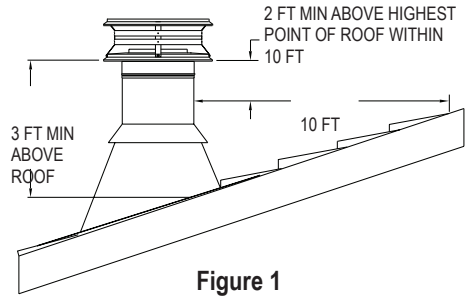
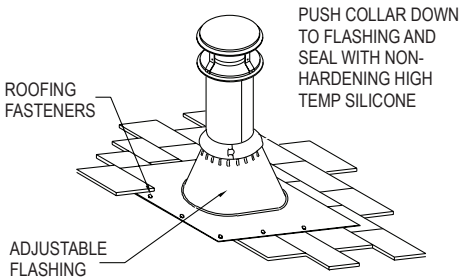

Figure 1
Figure 15
The National Fire Protection Association Standard #211 states: "Chimneys shall extend at least three feet above the highest point where it passes through the roof of a building, and at least two feet higher than any portion of a building within ten feet." (Fig.1) DuraTech Chimney may be installed up to 60 feet high. If the chimney extends more than 5 feet above the roof, an Extended Roof Bracket must be used (see page 12). Due to the overlap of the joints, subtract 1-1/4 inches from each Chimney Section's height to calculate installed height.
10. **Attach Flashing:** In new construction, assemble the Chimney Sections to a point above the roof, then slip the Flashing over the chimney. On an existing roof, center and install the Flashing before extending the chimney above the roof. Allow space to permit sliding the next Chimney Section up through the Flashing. Always insure the chimney remains vertical (use a level), and that at least a 2" clearance to combustible materials is maintained all around. Install the upper edge of the Flashing under the roofing. Nail to the roof along the upper edge and down each side with 1" roofing nails. Do not nail the lower edge of the Flashing (**Fig.15**). Seal top and upper sides of flashing with roofing compound or sealant. Be sure to follow local building practices, as needed. Seal all nail heads with a non-hardening waterproof sealant. On flat or tarred and graveled roofs, nail and seal the Flat Roof Flashing to the roof on all sides with roofing compound. Do not put screws through the Flashing into the Chimney Pipe.
11. **Finish Top:** Apply a high-temperature (500°F), non-hardening waterproof sealant around the chimney at the point where the Storm Collar will meet the chimney just above the Flashing (**Fig.15**). Slide the Storm Collar down over the chimney to the top of the Flashing. Tighten and seal the Storm Collar against the sealant. After installing sufficient Chimney Sections to meet the height requirement (**Fig.1**), attach the Chimney Cap onto the top of the chimney by holding the